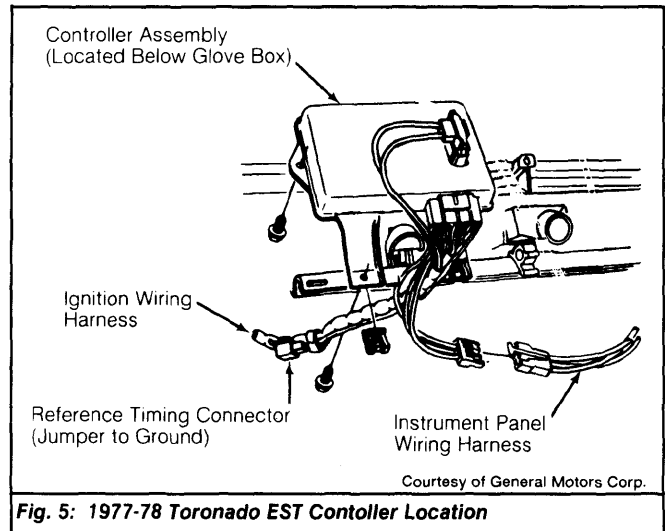

Fig. 5: 1977-78 Toronado EST Controller Location
- 3) With distributor adjusted to correct position, connect jumper wire to reference timing connector near control assembly (below glove box), and ground jumper wire. See Fig. 5.
- 1) Connect jumper wire to reference timing connector near control assembly (below glove box), and ground jumper wire. See Fig. 5.